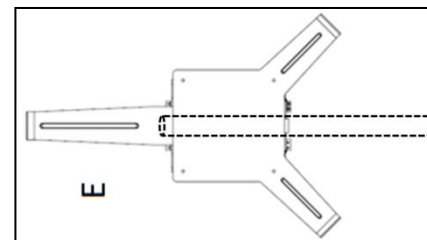

Figure 3
Slide 34" black pvc post (F) into the bottom of the Sign Mount (E) and tighten 1" from the top of the pvc post. This position will allow for the Stop/Slow Signs to sit 6' off the ground. See Figure 3.